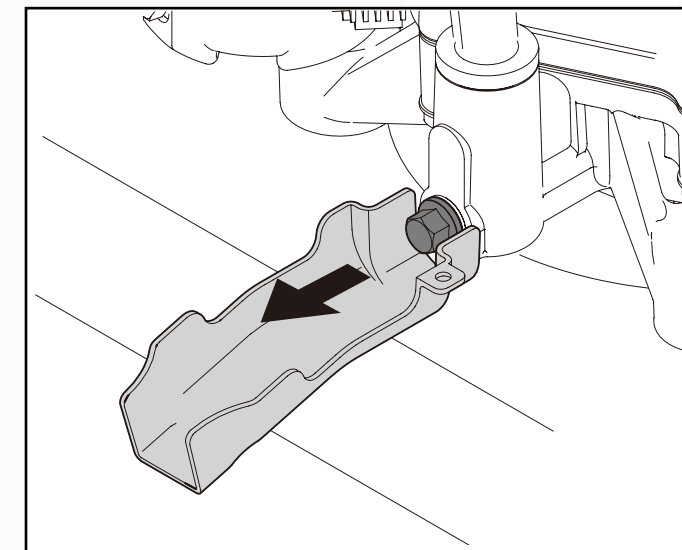

Fig. 33
3. Place the oil drain sleeve (included with tractor) under the drain plug. (Fig. 33)